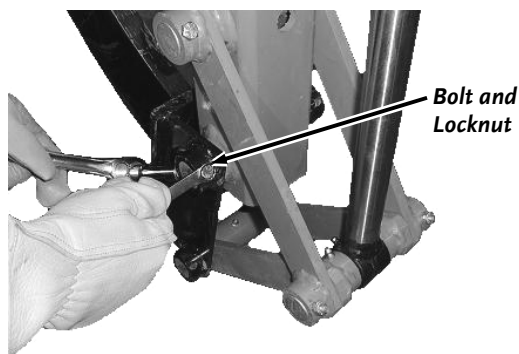

Figure 40
6. Install the four Bolts into the Linkage and Bucket or Digging Tooth and secure with four Locknuts (**Figure 40**).